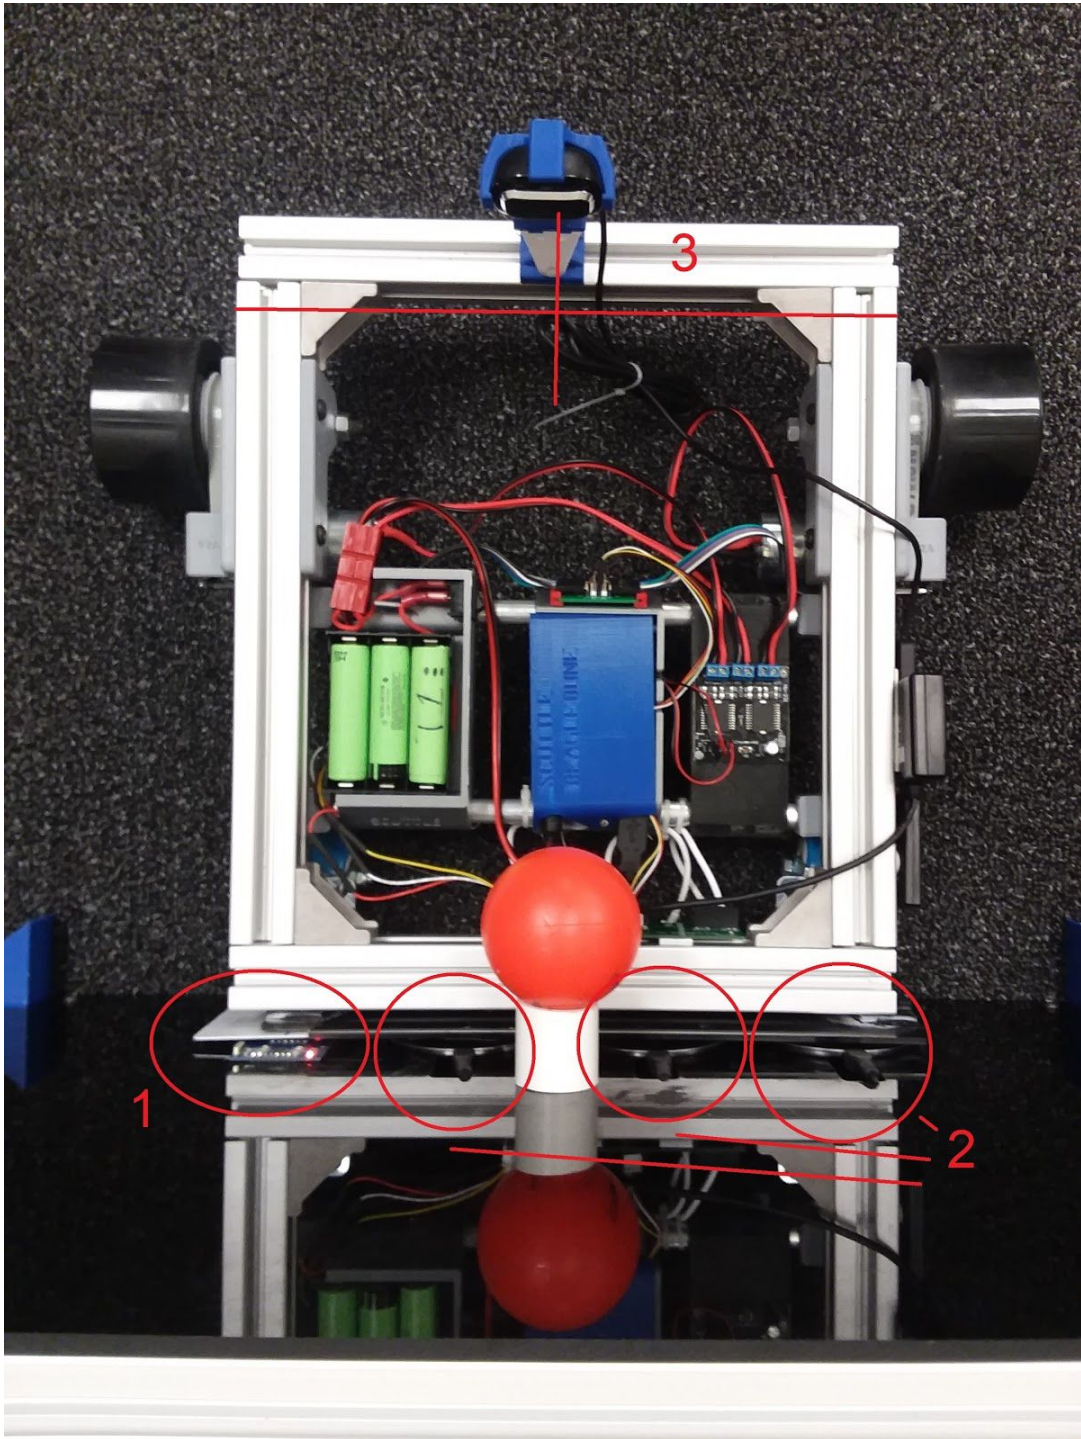

Figure 1.3: S.O.B. and Camera Alignment Diagram
- 5) Lastly, ensure proper alignment of your front panel and webcam using the diagram provided below in Figure 1.3.
Using Figure 1.3 below for reference, position your SCUTTLE with the attached S.O.B. hardware up against the charging station, ensure that the charging station is NOT powered for now to avoid passing unwanted current to your battery pack. Point 1 in the below figure depicts how the RFID card should be aligned with the RFID reader on the station. It is also important to note that you should position your ID card such that it does not come between the base and receiver pads next to it. It is recommended to use double sided tape to hold your RFID tag so it can be easily moved. Point 2 in the figure depicts how the receiver pads should align with the center of the base pads when up against the station, the etchings on the front panel show where to glue your receiver pads to ensure this alignment. Point 3 shows how the webcam should align with the station when docked, the center of the webcam should be aligned with the center of the orange target ball on the charging station. NOTE: this may not necessarily be the center position relative to the SCUTTLE's rail. After you have completed your alignments, it is safe to power on the charging station.